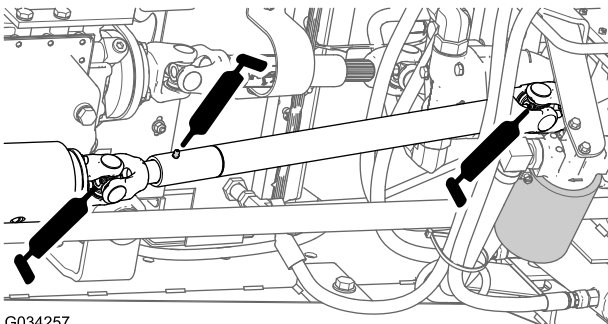

**Figure 41**
- Steering-plate bushings (Figure 41)
- Axle-pin bushing (Figure 41)